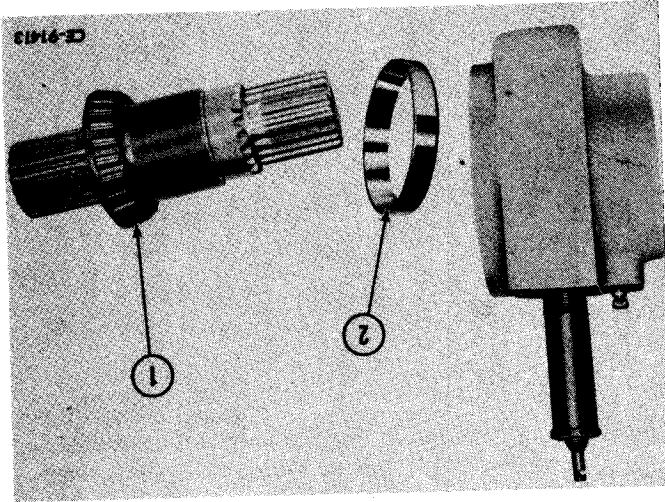

Figure 5-23
Using a suitable tool, press shaft (1, Fig. 5-23) out of housing (2). Press on output end of shaft.